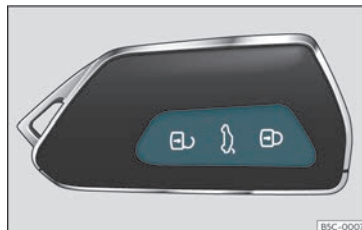

Fig. 78 Remote control key: buttons.
- Lock: press the  button >>> **Fig. 78**.